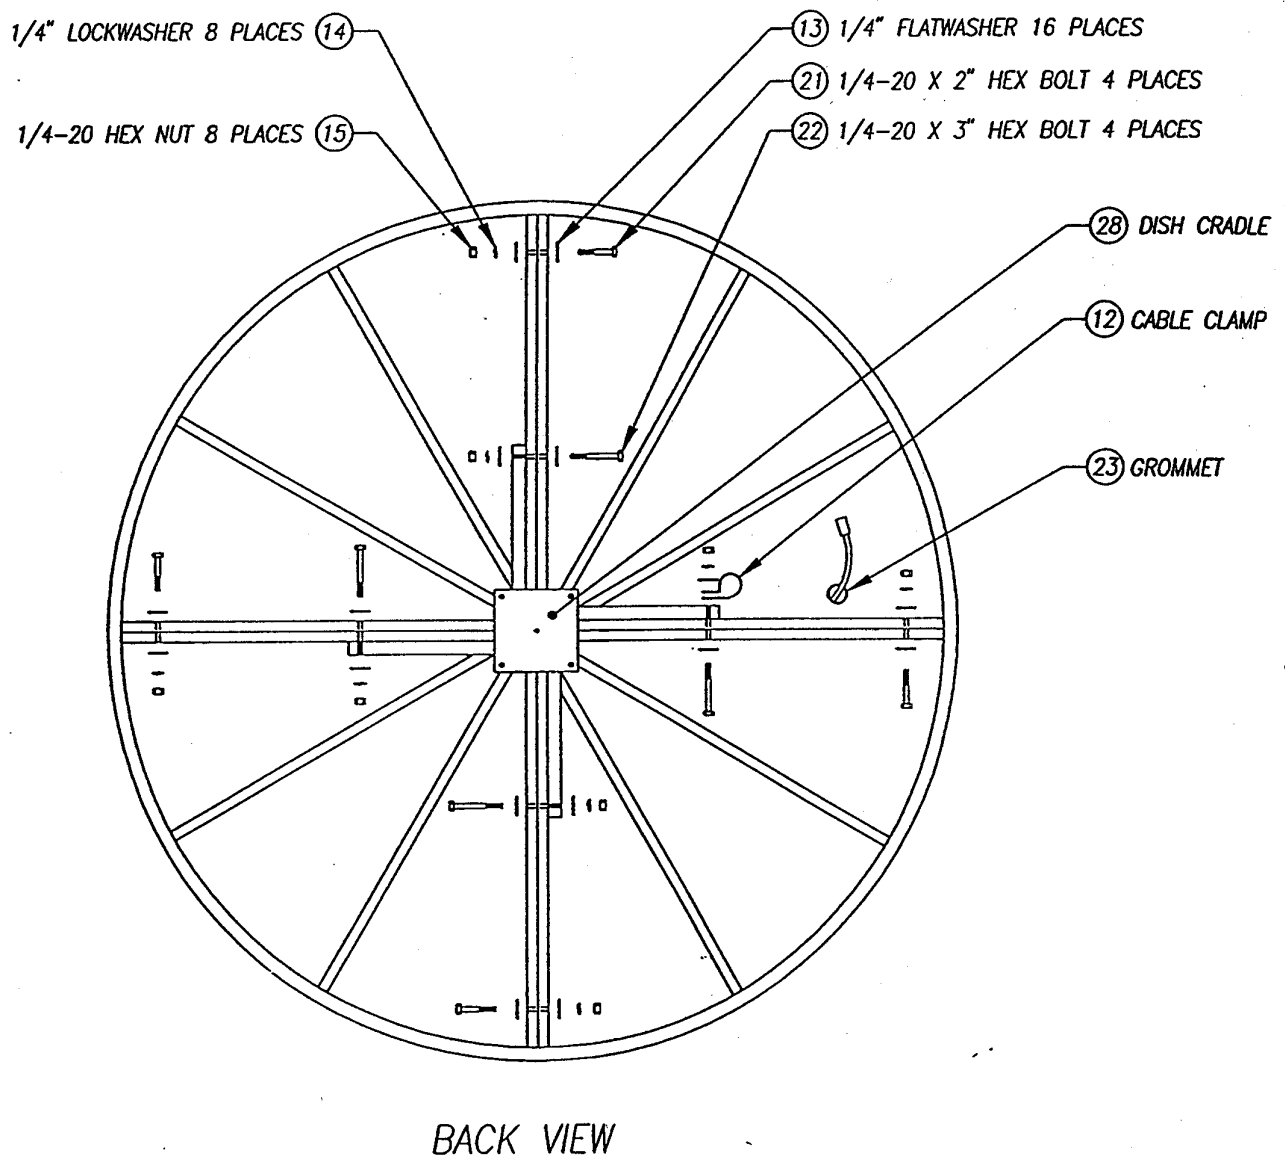

Figure C-1, Antenna Reflector Assembly
Please refer to Figure C-1, Antenna Reflector/"dish" Assembly. The mesh antenna reflector (or "dish"), is fabricated in four (4) quarter sections. As part of the alignment, test, and burn-in process at our laboratories, each antenna was marked with colored dot patterns so that it can be re-assembled in the field in exactly the same orientation. (Both colors and dot patterns were utilized to preclude difficulties with color blindness.)